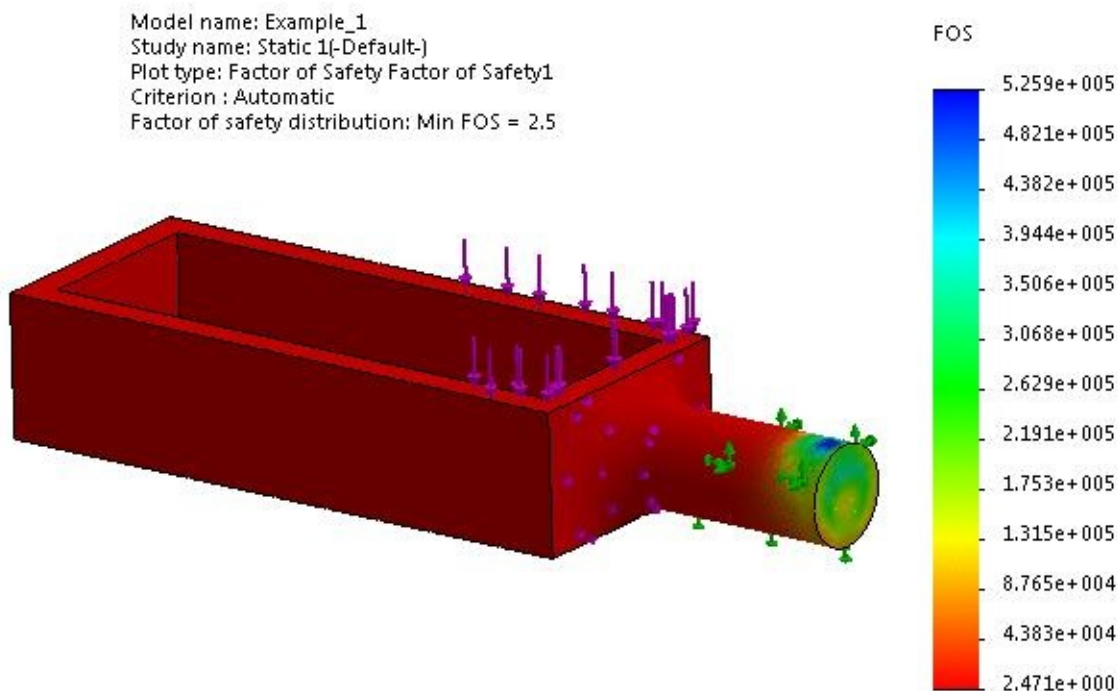

Figure-23. Updated Factor of Safety results
- Double-click on the **Factor of Safety1 (-FOS-)** node from the **Analysis Manager**. The results will be displayed as shown in Figure-23.